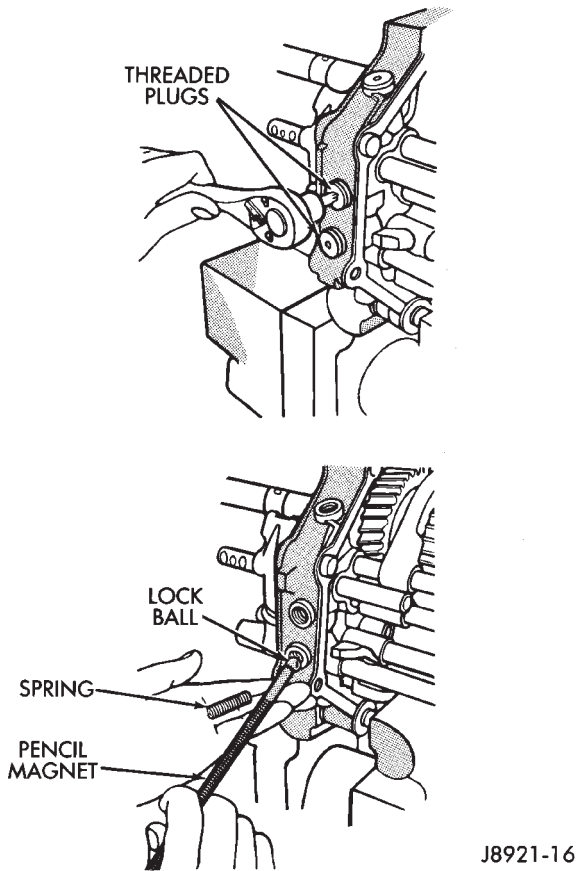

Fig. 16 Removing Lock Ball And Spring
(2) Remove threaded plugs from intermediate plate. Then remove lock ball and spring from plug holes with pencil magnet (Fig. 16).